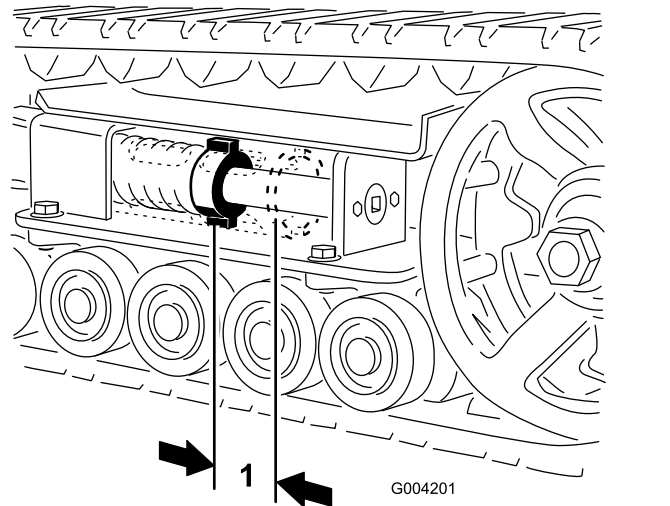

Figure 44
There should be 7 cm (2-3/4 inches) between the tension nut and the back of the tension tube (Figure 44). If not, adjust the track tension using the following procedure:
5. Using a 1/2-inch drive ratchet, turn the tensioning screw counterclockwise until the distance between the tension nut and the back of the tension tube (Figure 44) is 7 cm (2-3/4 inches).
12. Turn the tensioning screw counterclockwise until the distance between the tension nut and the back of the tension tube (Figure 44) is 7 cm (2-3/4 inches).
18. Turn the tensioning screw counterclockwise until the distance between the tension nut and the back of the tension tube (Figure 44) is 7 cm (2-3/4 inches).